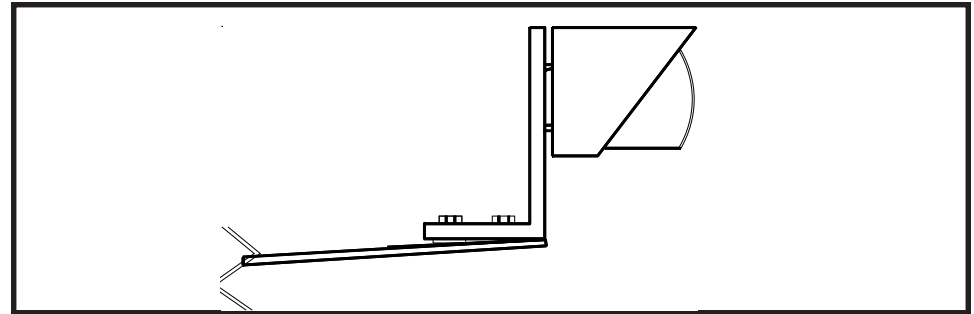

Figure 3
- 2) Mount the Traffic Master bracket on the front or rear of the Lightbar frame as desired. Use either existing holes in the lightbar frame, if available or drill holes as needed. NOTE: Remember to properly seal all holes made in any lightbar to prevent water damage. In some situations use of the plastic shims supplied in the parts bag will be required to ensure level mounting of the Traffic Master (refer to Figure3).